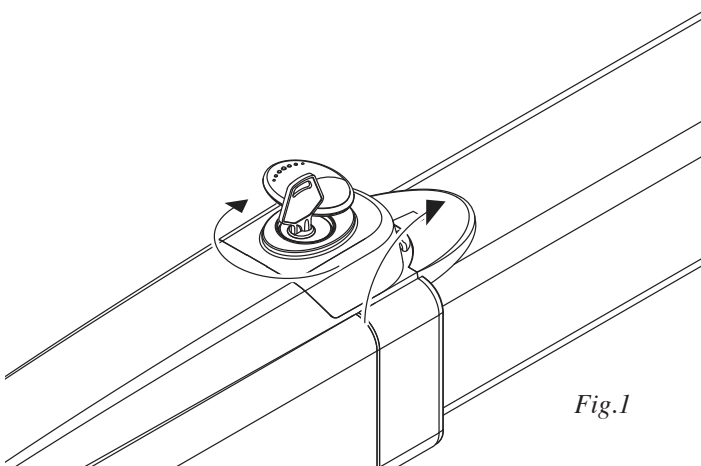

Fig.1
- Use the special key supplied with the operator to open the protective cover of the release mechanisms (Fig.1).